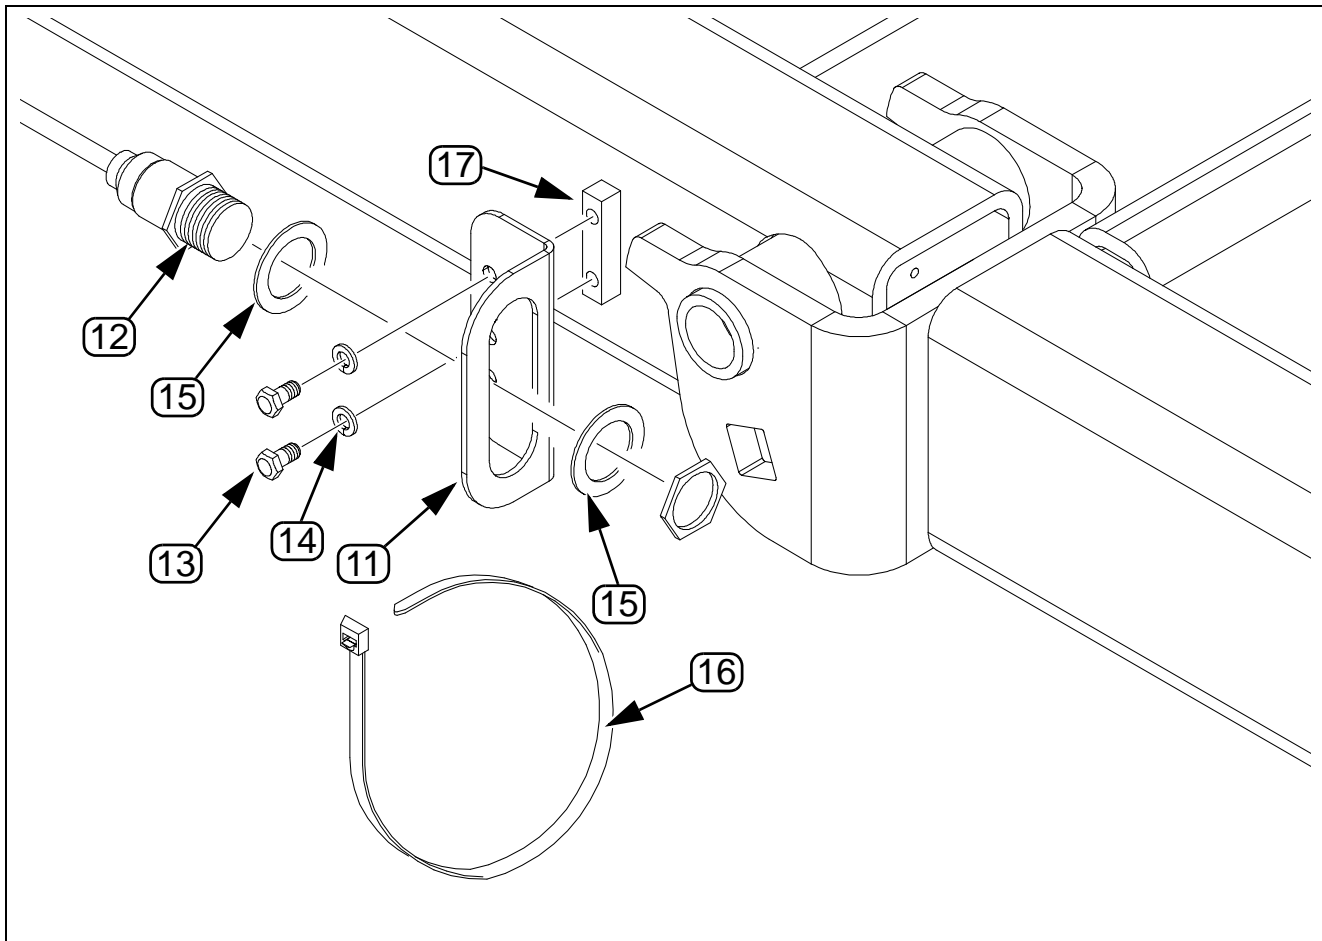

Figure 1
*Refer to Figure 1.*
4. Disconnect the wiring harnesses ① for the fold proximity sensors from the machine harness.
5. Remove and discard the mounting bolts ②, lock washers ③, and flat washers ④.
6. Remove and discard the fold proximity sensor assemblies ⑤.